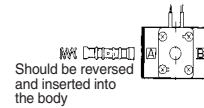

Fig. 4
- Invert the spool valve 180° and insert it from the piston cover side (the side of the body marked "A") of body e. (Fig. 4)